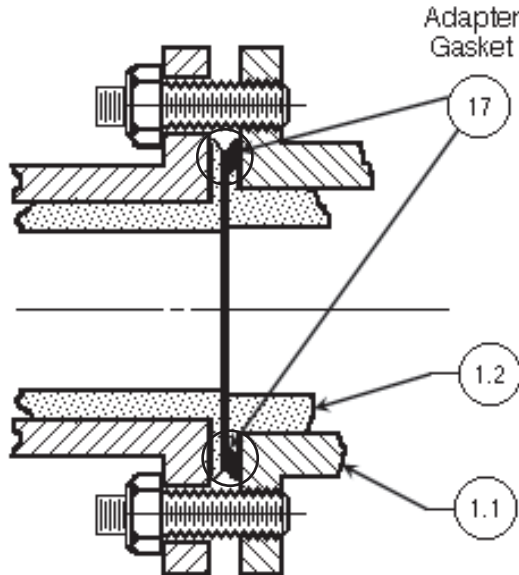

Figure 3: ANSI/DIN Adapter Gasket
10. An ANSI/DIN adapter gasket (17) is supplied with all Model 521 valves provided with DIN 16/25/40 end connections. See Figure 3. The purpose of this adapter gasket (17) is to ensure proper compression of the body's TFE core (1.2) when used with DIN piping.